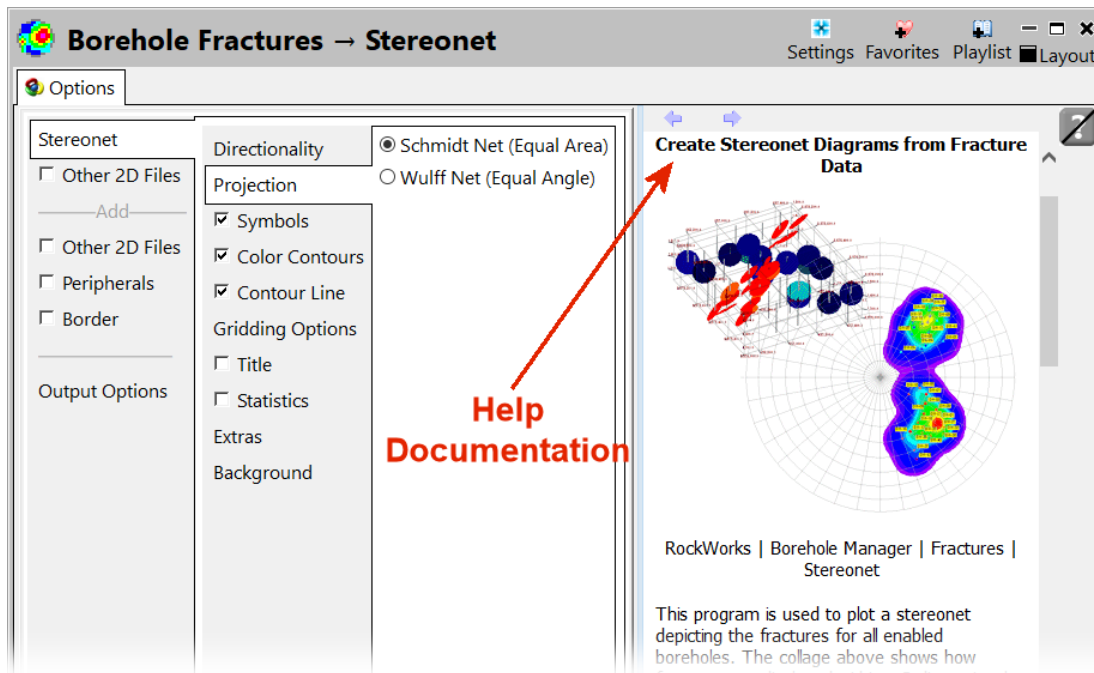

Figure 12
- Configure the *Borehole Fractures -> Stereonet* menu (Figure 12) for the type of stereonet that you want. Please note that extensive documentation is displayed along the right side of the menu.